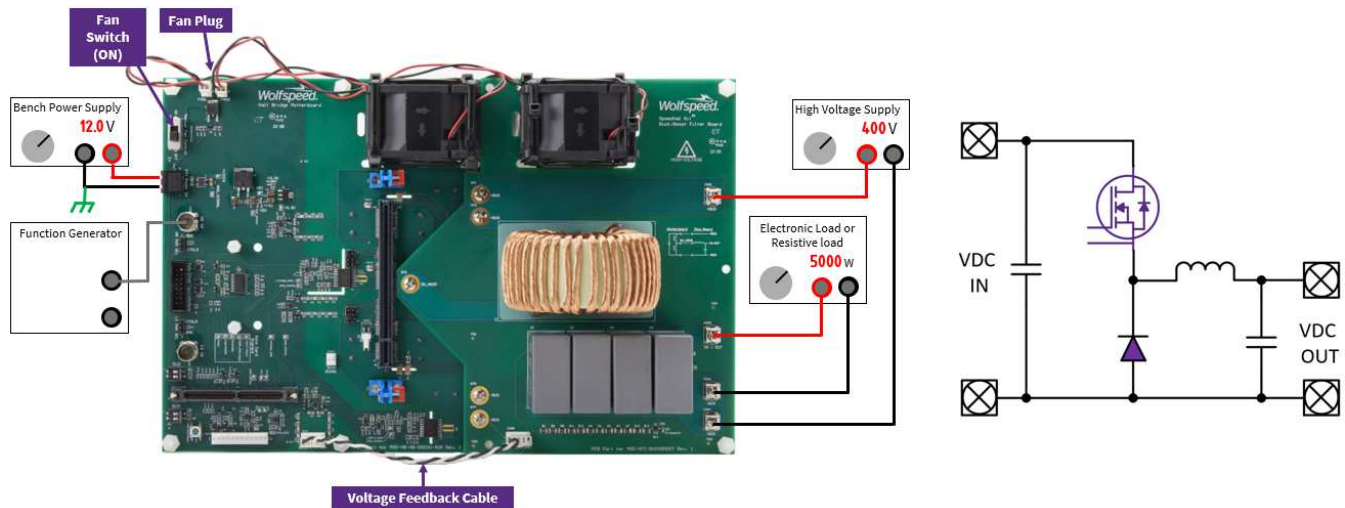

Figure 54: Connection Diagram for Asynchronous Buck Converter
- Connect buck/boost filter board to the motherboard using the 5 screws and terminal nuts on the motherboard (Figure 54).